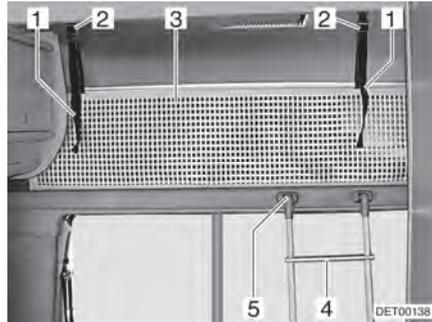

Fig. 72 Overcab bed
**Access ladder** Always use the access ladder (Fig. 72,4) provided as standard to access the overcab bed.
*Attaching:* ■ Attach the ladder with the rails to the holder (Fig. 72,5) on the alcove panel.
**Safety net** The safety net (Fig. 72,3) is stored as standard between the mattress and slatted frame. Only use the safety net if persons are already in the alcove.
*Setting up:* ■ Let the retaining straps (Fig. 72,1) snap into the holders (Fig. 72,2) on the ceiling.